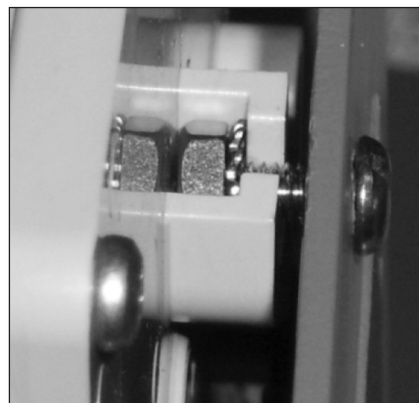

Figure 7.25 - Mounting plate attached to the nut
6. By tilting the bottom of the Endpoint away from the mounting plate slide the notched mounting slot under the nut as shown in Figure 7.25. Leave the screw loose for now.